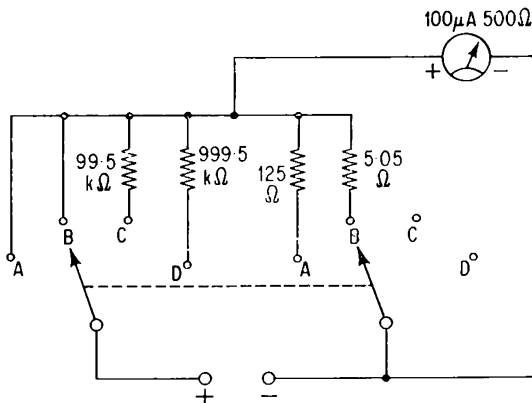

Fig. 122
20. Fig. 122 illustrates a simple multi-range meter. What would be the F.S.D. readings on ranges A, B, C and D?